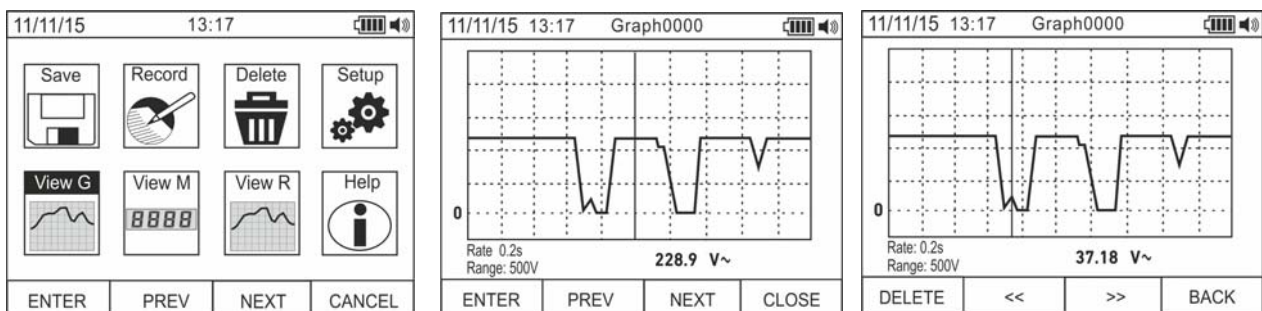

Fig. 18: Recalling graphs to the display
27. Use the **F2** or **F3** key to select symbol “View G” and press the **F1** key (see Fig. 18 – left side).
28. Use the **F2 (PREV)** or **F3 (NEXT)** keys to select the desired graph among the ones saved in the instrument’s memory and press key **F1 (ENTER)** to open the graph (see Fig. 18 – central part).
29. Use the **F2 (<<)** or **F3 (>>)** keys to move the cursor within the graph in the two directions, observing the corresponding value at the bottom of the display (see Fig. 18 – right side).